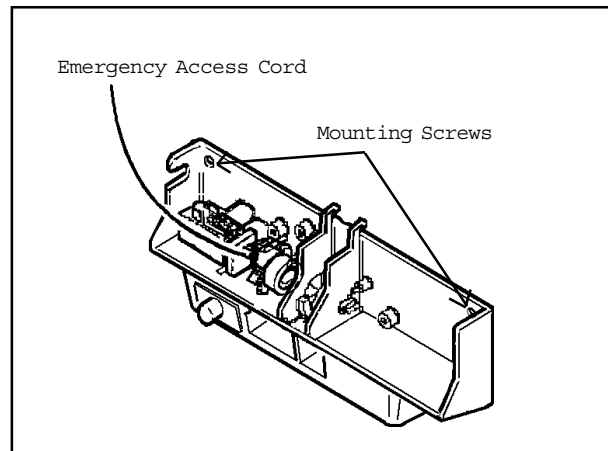

Figure 5-8
NOTE: *When the cord is released, the lock will return to a locked position (Figure 5-8).*
4. Remove two 5/16" hex-head screws securing the switch support to the metal shroud support (*Figure 5-8*).